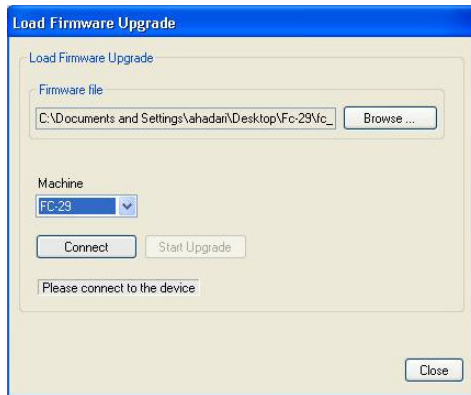

Figure 8: Load Firmware Upgrade Window
5. Click the Start Upgrade button (see Figure 8).